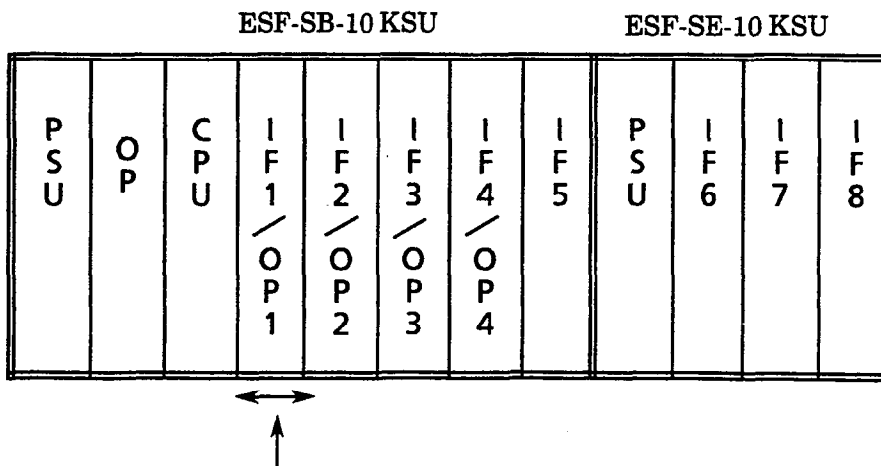

Figure 3-91 Installing the DTI-F( )-10 KTU or DTI-F(A)-20 KTU in the ESF-SB-10 KSU
1. Install the DTI-F( )-10 KTU or DTI-F(A)-20 KTU and the CLK-F-21 Unit in the Level II ESF-SB-10 KSU. Refer to Figure 3-91 - Installing the DTI-F( )-10 KTU or DTI-F(A)-20 KTU in the ESF-SB-10 KSU.